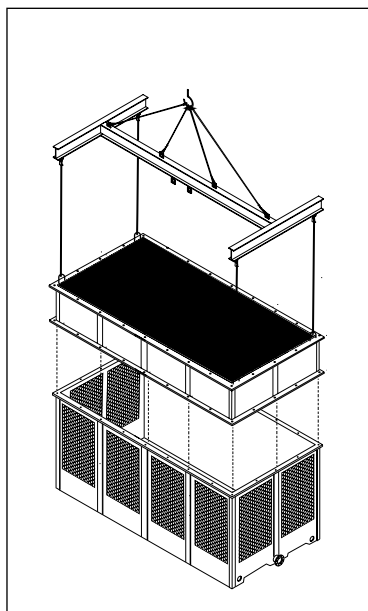

Figure A-58: Lower body section assemble for a Modular Tower (RTM-D or RTPM-D)
- K. **Only for RTM-D or RTPM-D models:** Assemble Lower Body section #1 on top of basin section #1, make sure that the bolt holes on Lower Body section #1 are aligned with the perforations on basin section #1, then bolt down and secure the horizontal flanges with the stainless steel nut and bolt sets supplied by REYMSA (see Figure A-58).